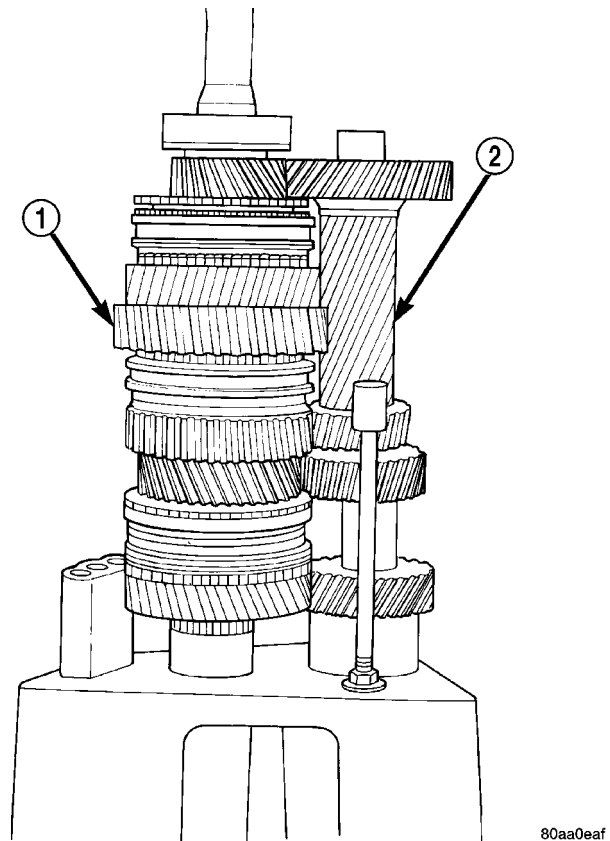
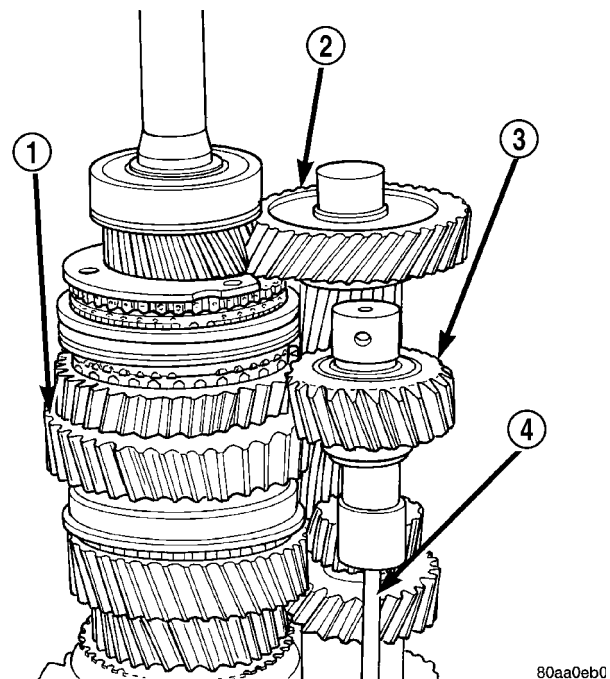

Fig. 90 COUNTERSHAFT ON FIXTURE
Fig. 91 REVERSE IDLER ASSEMBLY POSITION
(7) Install Adapter 6747-2A on front bearing hub of countershaft. The adapter has a shoulder on one side that goes towards the countershaft.
(8) Slide countershaft (and adapter) into fixture slot. Verify countershaft and output shaft gears are meshed with the mainshaft gears (Fig. 90).
(9) Check alignment of countershaft and output shaft gear teeth. Note gears may not align perfectly. A difference in height of 1.57 to 3.18 mm (1/16 to 1/8 in.) will probably exist. This difference will not interfere with assembly.
(10) Position reverse idler in support cup of assembly fixture (Fig. 91). Ensure idler gear is properly meshed and aligned with shaft gear teeth and bolt holes are facing out and not toward geartrain. Adjust pedestal up or down if necessary and verify that short end of idler shaft is facing up as shown.
(11) On 2-wheel drive transmission, thread one Alignment Pin 8120 in center or passenger side hole